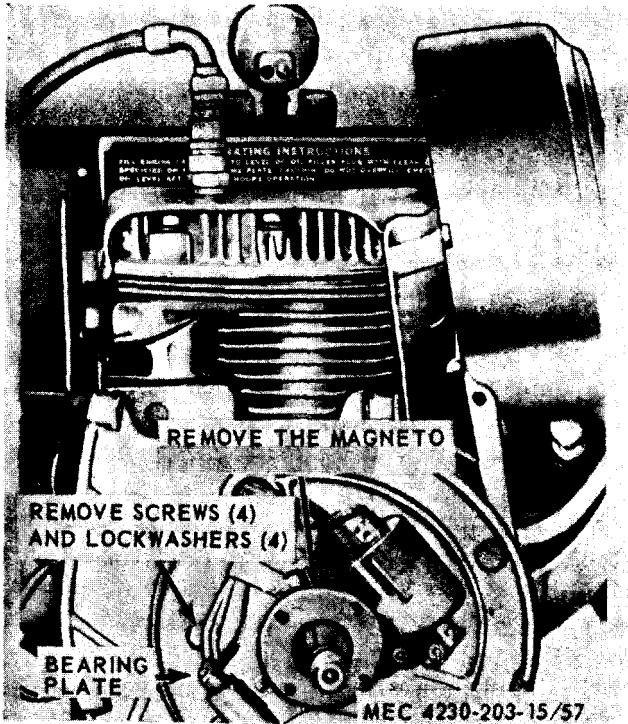

Figure 5-5. Bearing plate removal and installation.
(1) Remove the engine (para 4-14).
(2) Remove the magneto (para 4-25).
(3) Refer to figure 5-5 and remove the bearing plate.
(1) Refer to figure 5-5 and install the bearing plate.
(2) Install the magneto (para 4-25).
(3) Install the engine (para 4-14).